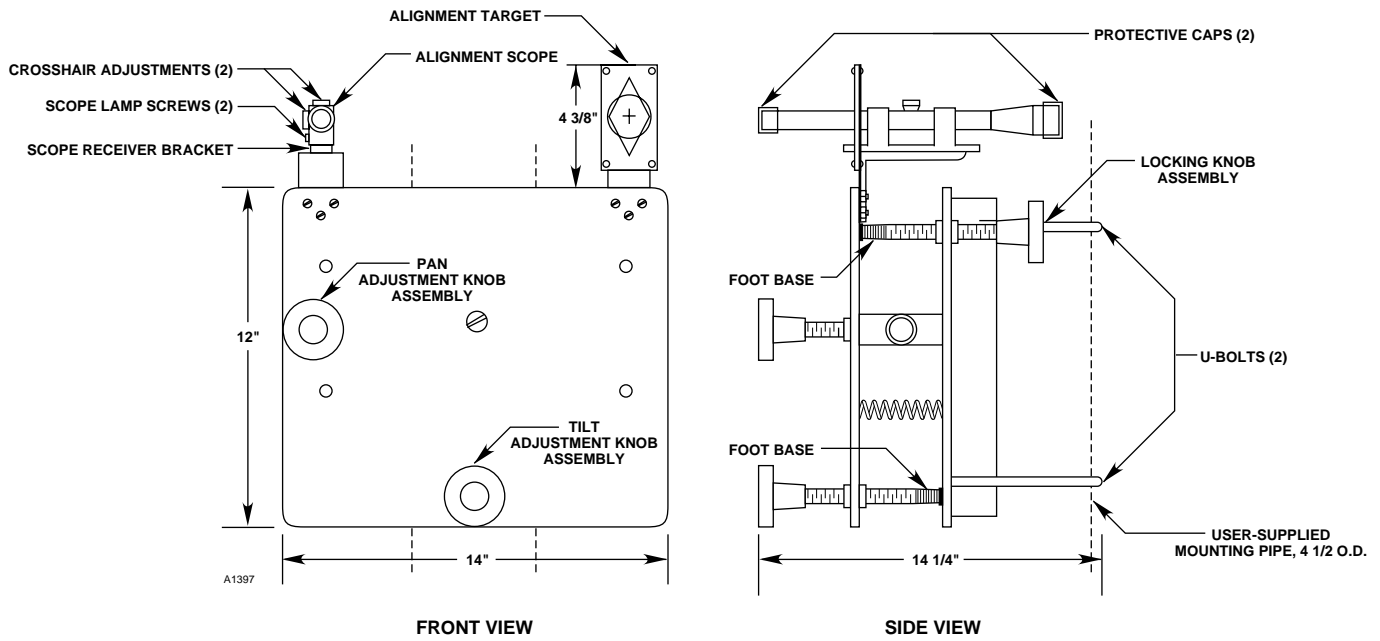

Figure 4—Pan Tilt Mount
The transmitter and receiver are bolted to the pan-tilt mount, illustrated in Figures 4 and 5. This mount per-
1. Adjust the locking knob assembly on the back plate of each mount so that the end of the shaft is at least 1-1/2 inch from the front plate. (See Figure 4 for illustration of the pan-tilt mount.)